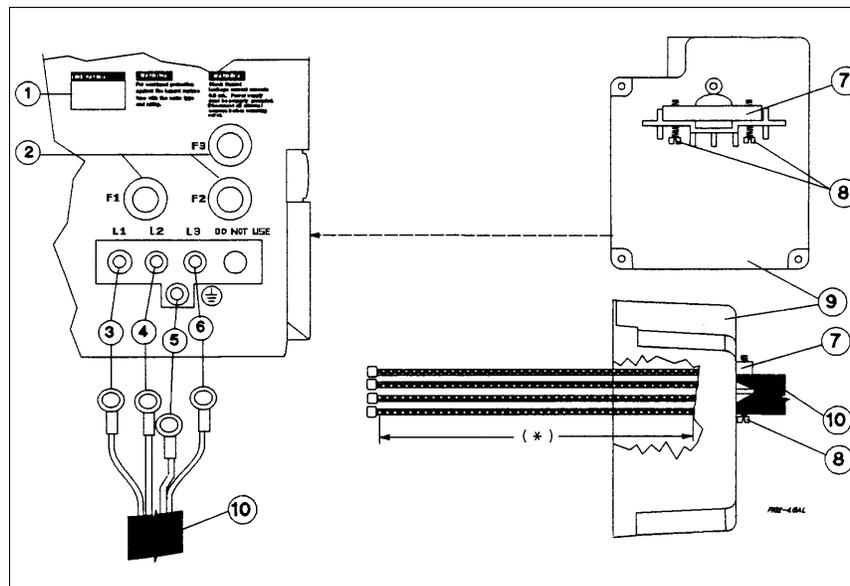

Figure 2-5. Connecting the Series 668xA Power Cord
See Figure 2-5 and proceed as follows:
1. Check the line fuses ( 2 ), Figure 2-5) as follows: